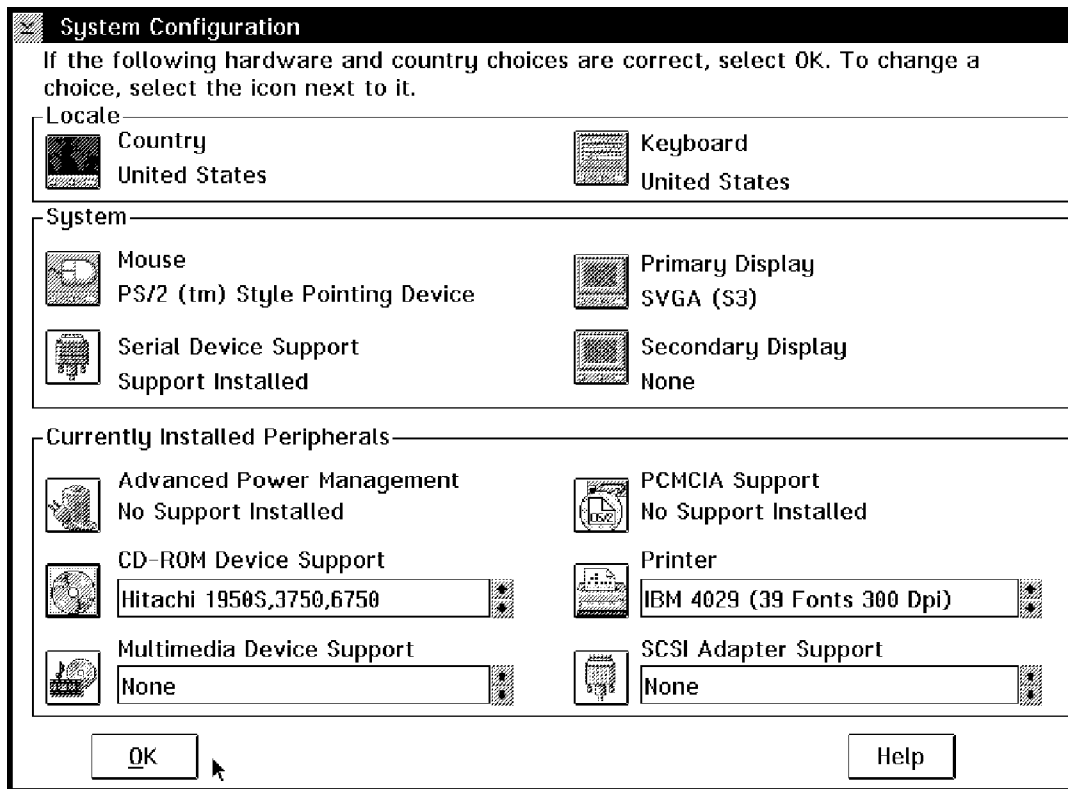

Figure 52. CD-ROM Updated Selective Install Panel
6. You are then returned to the Selective Install screen where the CD-ROM you selected has been added. This is shown in Figure 52 on page 164.